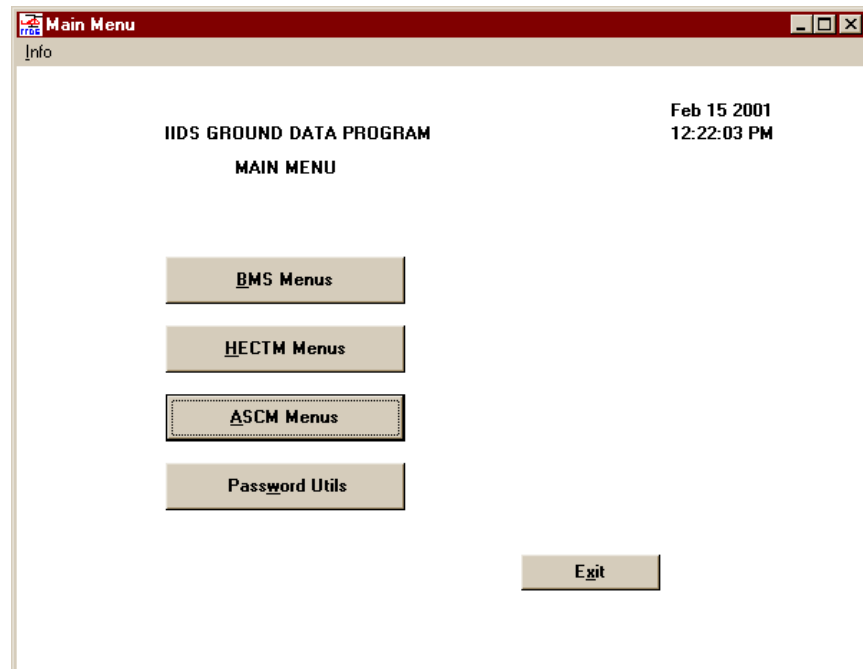

Figure 8. GBMC Main Menu Screen
When logon is successful, the GBMC main menu is visible (refer to Figure 8). From here you can select all the function available in the application. The menu consists of buttons for accessing the:
1. Click on the "Password Utils" control button (refer to Figure 8).
1. From the GBMC Main Menu, Click on the "Password Utils" control button (refer to Figure 8).
2. Click on the "ASCM Menus" control button (refer to Figure 8).